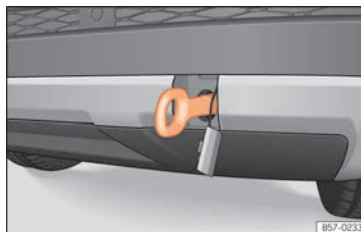

Fig. 104 Right side of the rear bumper: towline anchorage screwed in.
- Screw the towing eye in the housing by turning it to the maximum **anticlockwise** » **Fig. 104** » ❶. Use a suitable object that can completely and securely tighten the towing eye in its housing.